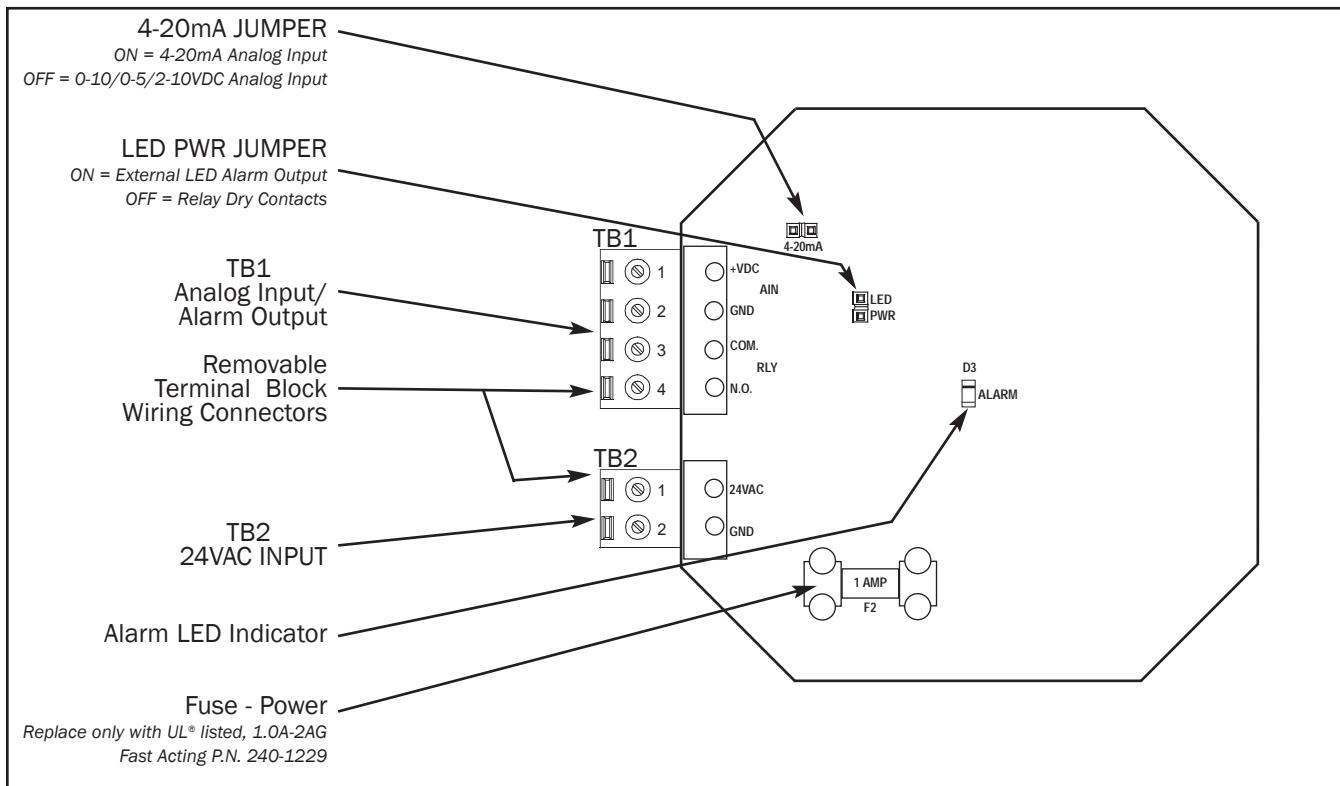

Figure 4. GA-100 Main Circuit Board Detail
GA-100 wiring consists of connecting 24VAC input power and the optional alarm output at the GA-100. Refer to Figures 4 and 5 for additional detail. Following installation, review the GA-100 START UP Procedure.
Wiring connections to the GA-100 are accomplished at three removable screw-type terminal block connectors for TB1 and TB2 at the left side of the instrument as shown in Figure 4. The connectors are keyed to prevent improper hookup to the instrument.
2. Connect 24 VAC power to TB2 terminal 1, and the 24V ground to TB2 terminal 2 as shown in Figures 4 and 5, observing the following wiring precautions.
2. Connect the analog input signal wire at TB1-1, and the signal ground at TB1-2 as shown in Figures 4 and 5 while observing the previous wiring precautions.
1. Remove the four cover retaining screws at each corner of the transmitter cover in order to gain access to the transmitter Wiring Terminal Block on the main circuit board shown in Figure 4.
In addition to the front panel LED alarm indicator, the GA-100 can be configured to provide an alarm output as relay dry contacts, or as direct drive (15 mA typical) for an external LED indicator. The alarm output type is set using the LED PWR jumper on the GA-100 main circuit board as shown in Figure 4. With the LED PWR jumper on, the alarm output is set to produce LED drive (15 mA typical) to an external LED at TB1 terminal 4, with the LED cathode return at TB2-2. With the LED PWR jumper OFF, the alarm output is configured as dry relay contacts (normally open) to close on alarm between TB1-3 and TB1-4. Contacts are rated at 30VDC/24VAC 3 amps maximum.